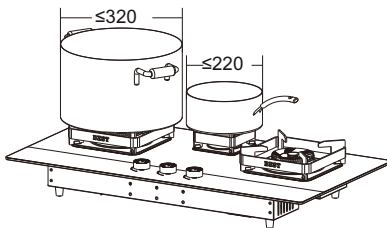

Figure 11
● Pot size selection (see Figure 11)
- Overturn the hob and correctly position seal (E) (fig. 11) under the edge of the hob itself, so that the outer part of the seal itself perfectly matches the outer perimetral edge of the hob. The ends of the strips must fit together without overlapping.